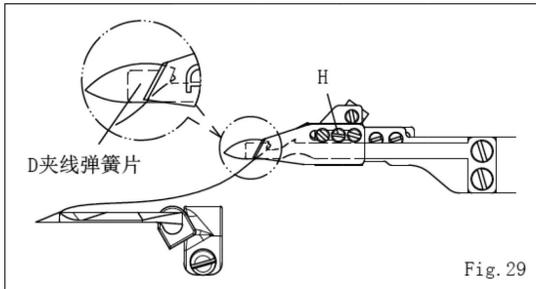

Fig. 29
3. 夹线弹簧片的压力调整：当下勾针线被切断后，下勾针这端之线头须被夹线弹簧片与活动刀片稳定夹住。调节夹线弹簧的压力，可由螺丝(H)旋转调整。(顺时针方向压力增强，逆时针方向压力减弱)。(图 29)
3. When the looper thread has been cut off, the Clamp Spring and Moving Knife will clip the thread in stable. To increase the pressure of clipping thread turn the screw(H)clockwise and decrease the pressure turn the screw(H)counterclockwise. (Fig. 29)